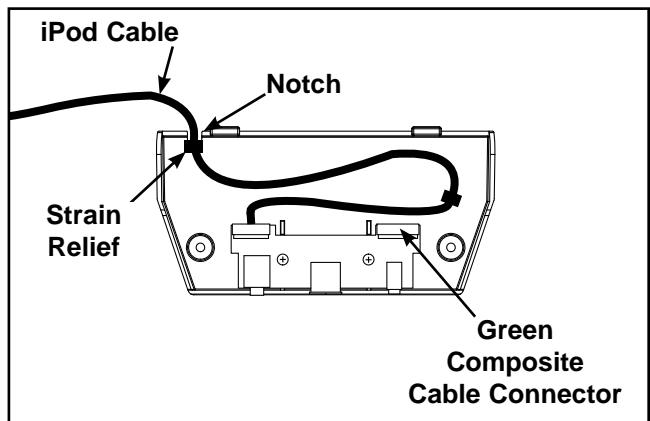

Figure 33
- A. Plug the iPod cable into the left side of the lower cover. See Figure 33.
- B. Route the iPod cable through the notch in the lower cover. Ensure the second strain relief is used to expose cable to shortest length. See Figure 33.